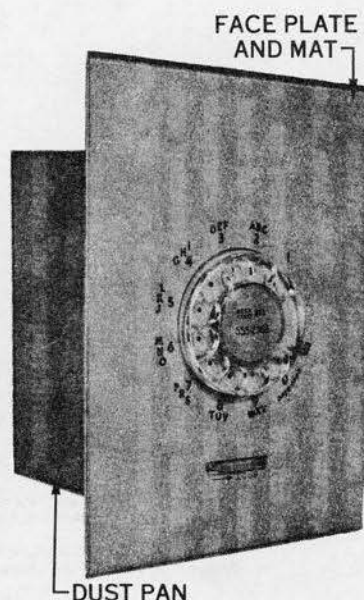

Fig. 12 — 690A1 Subscriber Set, External View
- (a) 690A1: Provided with clear plastic faceplate and a snap-on bezel to retain the faceplate (Fig. 12). A faceplate and five mats colored silver, gold, blue, green and cream white are also provided to give a choice of color contrasts.